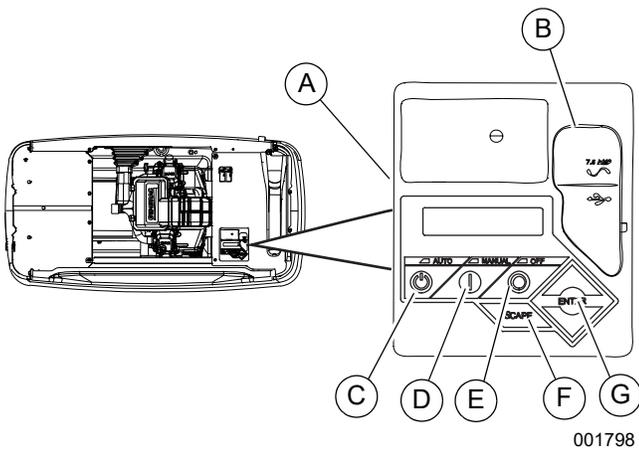

Figure 3-4. Generator Set Control Panel
See **Figure 3-4**. The control panel interface (A) is located under enclosure lid. Verify both left and right side locks are unlocked before attempting to lift lid. Open lid as directed in **Opening the Lid**.
See **Figure 3-4** for button locations.